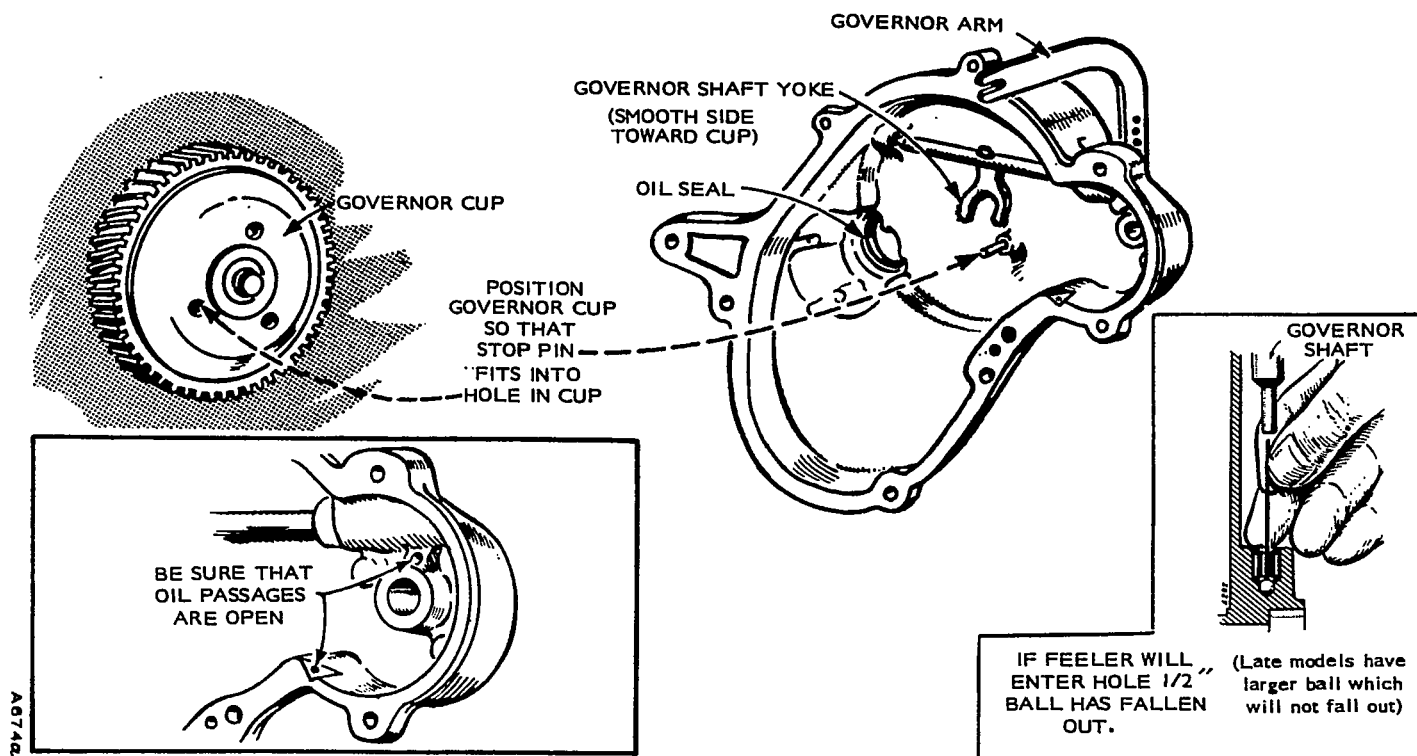

FIGURE 79. GEAR COVER ASSEMBLY
1. Operate governor shaft to check for binding and see that governor shaft end thrust ball is in place (Figure 79).
3. Use an oil seal driver (or a piece of shim stock over crankshaft keyway) to protect oil seal and install gear cover. Tighten mounting screws to specified torque. Before tightening screws, be sure stop pin is in governor cup hole (Figure 79).